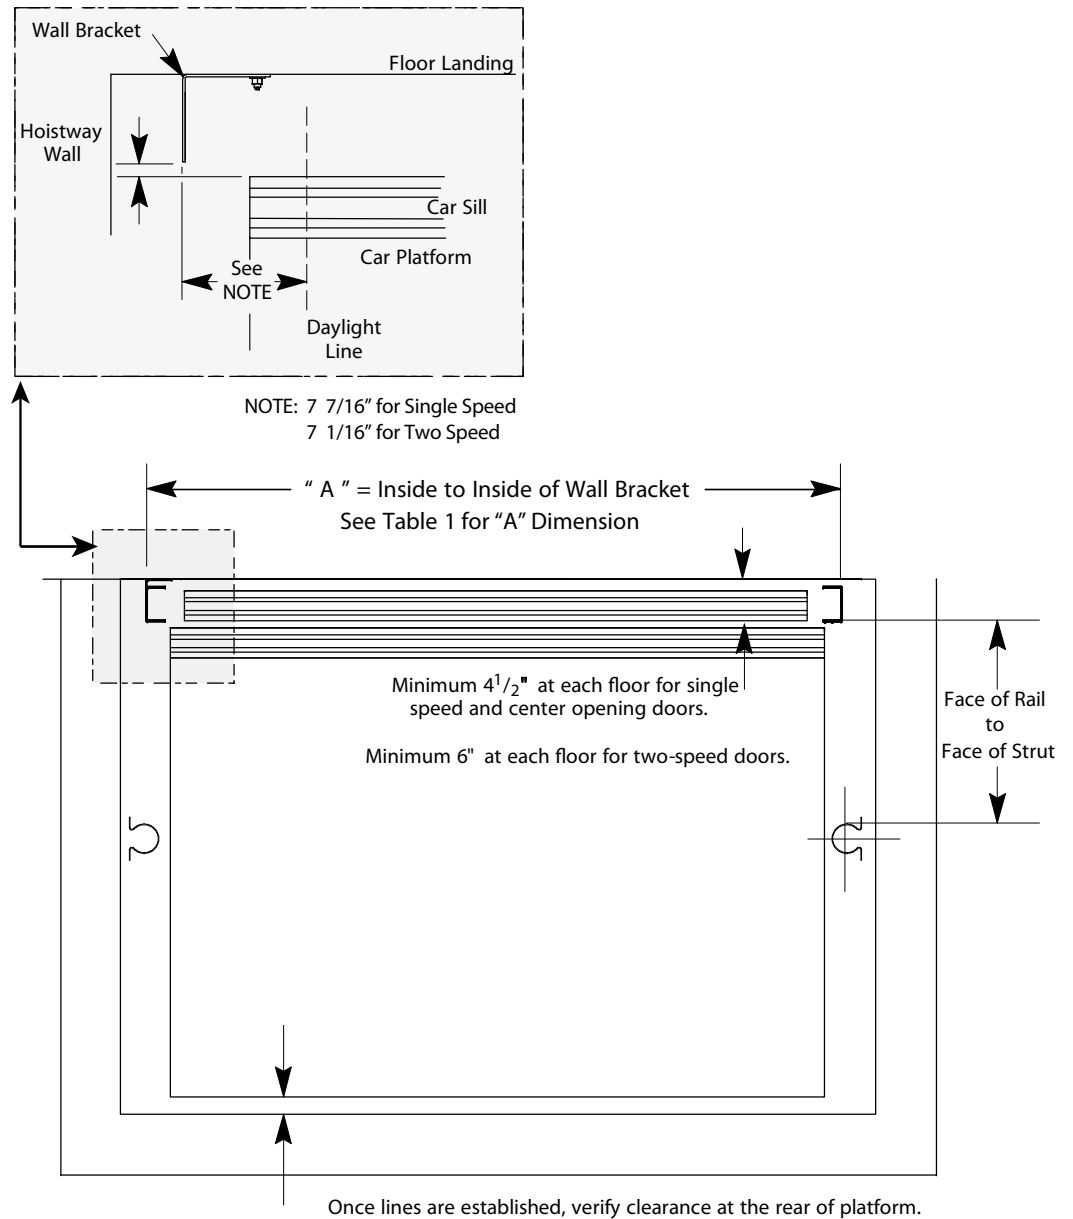

Figure 1 - Locate Guide Rails
1. Check to see which floor projects the farthest into the hoistway. Use this floor for the rough sill line. See Figure 1.
6. After the king side is square and plumb, locate the other side by using Dimension "A" in Figure 1 on page 7 and Table 1 on page 9.
2. Locate the struts from the platform using the dimensions from Figure 1 on page 7.